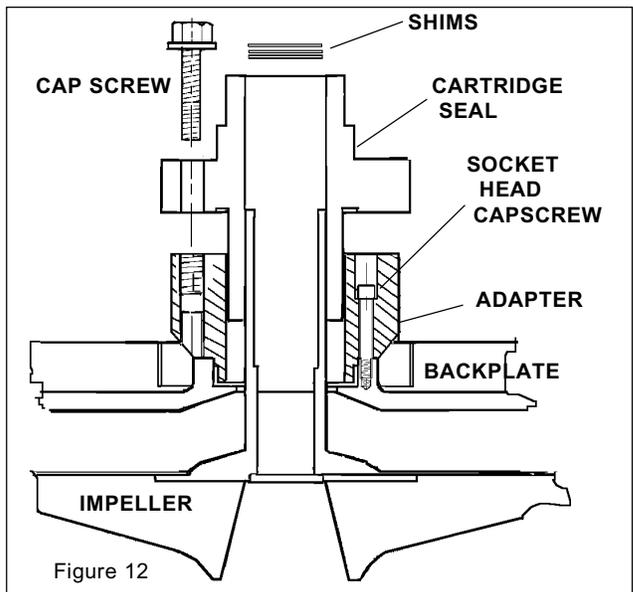

Figure 12
**Note:** *The clearance shims that position the impeller within the casing are at the end of the impeller hub (inside the seal.) Keep shims together as a set for reassembly.* (Figure 12)
3. Remove the seal unit from the backplate assembly by removing the cap screws holding the seal flange to the seal adapter. Pull seal from seal adapter. Remove seal adapter by removing socket head cap screws holding adapter to the back plate. (Figure 12)